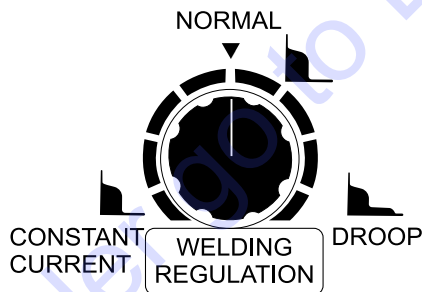

Figure 35. Welding Regulation Control Knob
- Set the welding regulation control knob (Figure 35) to the desired setting.